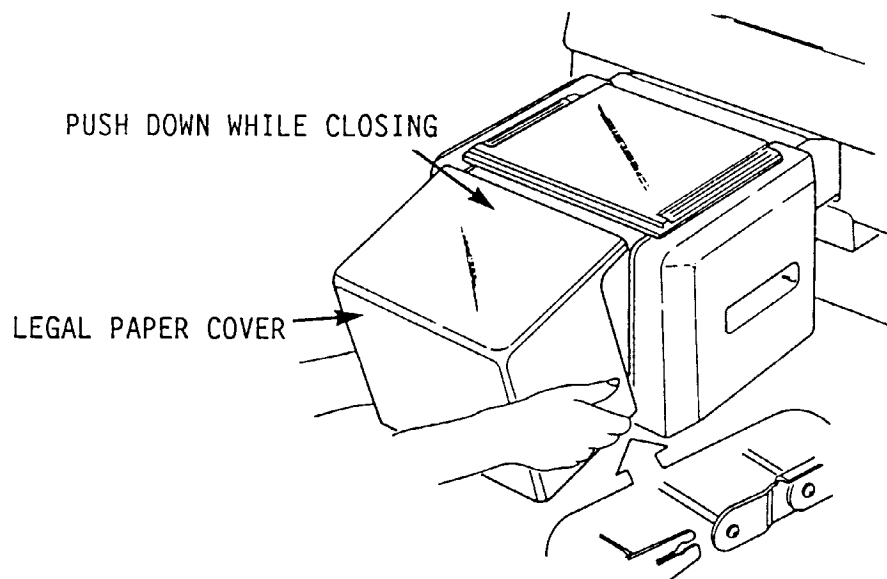

FIGURE 2-20. INSTALLING THE LEGAL PAPER COVER
9. Gently squeeze the bottom of the supplied legal paper cover so that the pivot arms align with the slots on the shaft, and install the cover onto the bracket extender as shown in Figure 2-20.